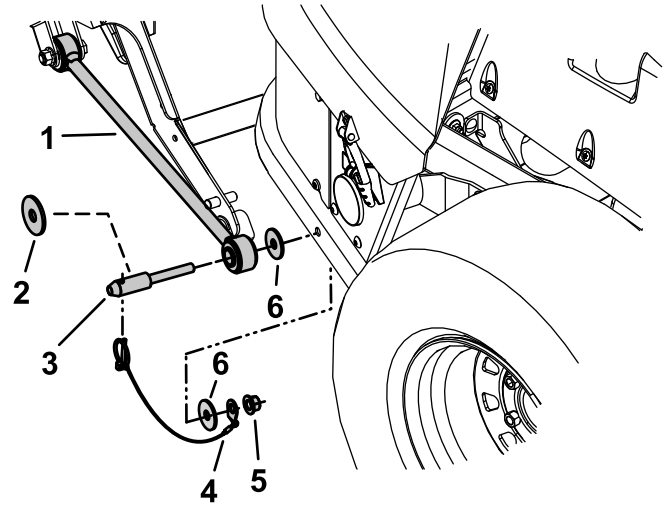

Figure 13
4. Secure the rod-support assembly to each side of the rear frame using 2 bagger pins, 2 flat washers, 4 thrust washers, 2 mount-pin lanyards, and 2 locknuts (1/2 inch) as shown in Figure 13.